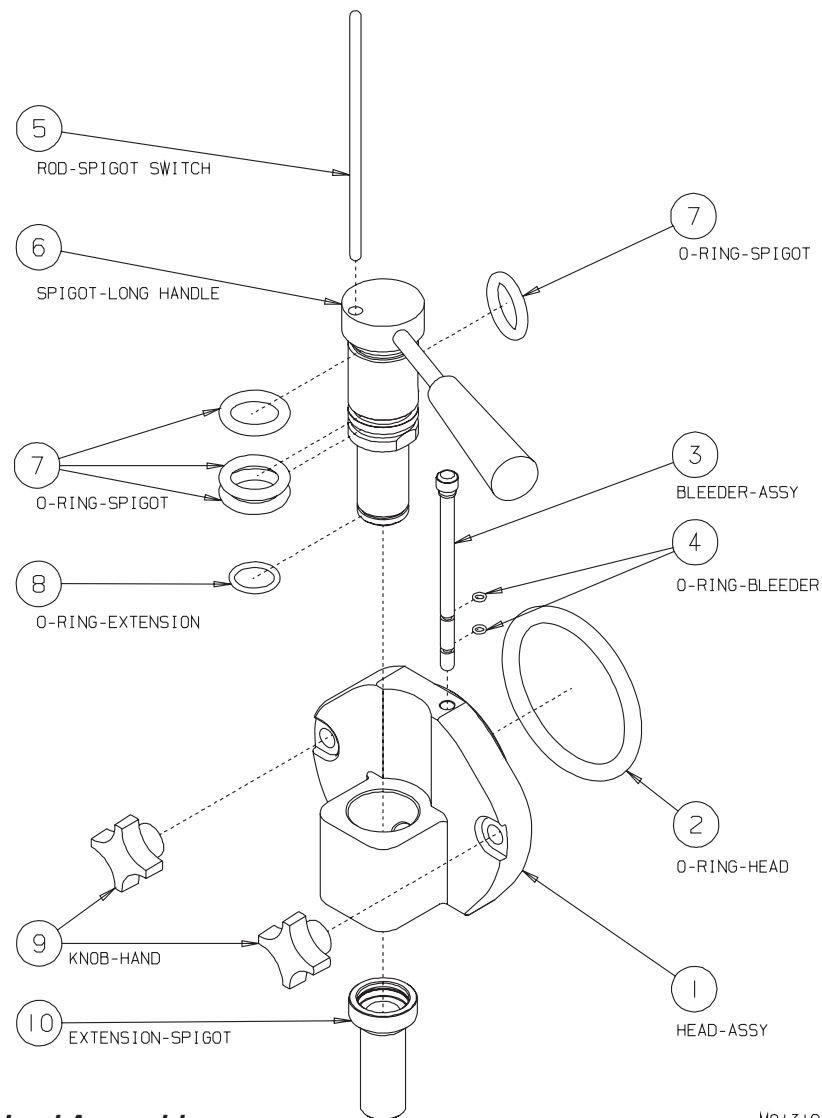

Figure 9-4 Head Assembly
7. See figure 9-4. Install and lubricate the o-rings (see o-ring chart, last page) on the dispensing spigots (7) and insert the spigots into the head (1). Check by turning the spigots side to side, making sure they move freely.
8. Place the extension or holding o-ring (8) onto the spigots. Do not lubricate this o-ring.